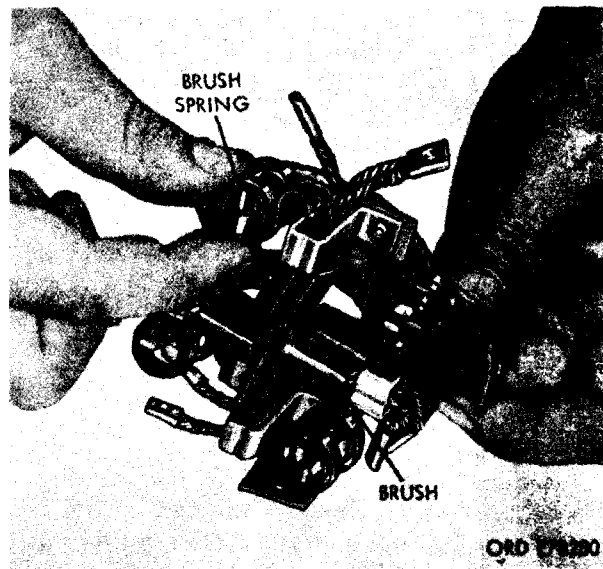

Figure 4-29. Assembling brush holder assembly.
a. Refer to figure 4-29 and install eight brushes in same slots in brush holder from which they were removed.
b. Slide eight brush springs on mounting arms as shown in figure 4-29. Pressure end of spring must engage top of brush between brush holder leads as shown.